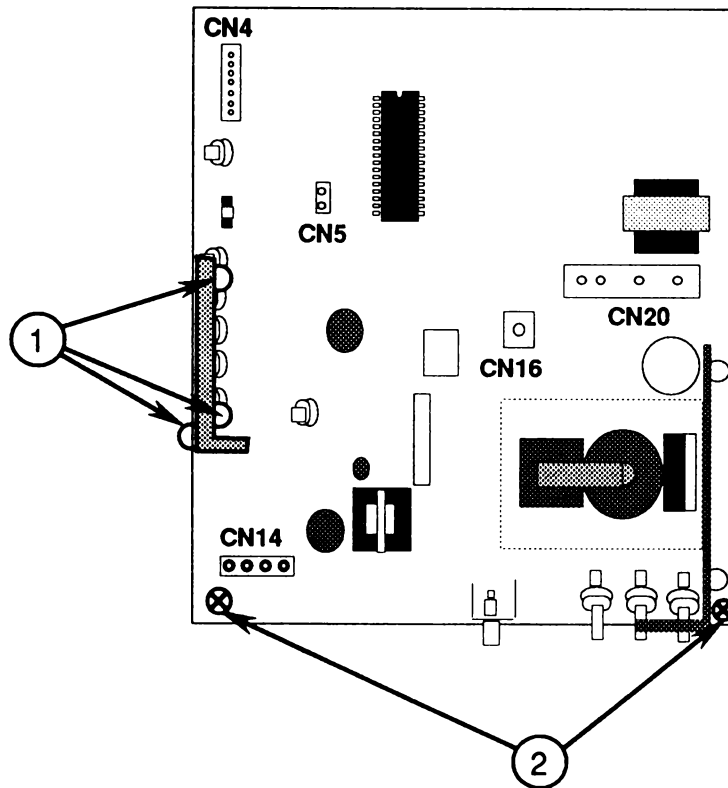

FIGURE 30
6. Remove the two mounting screws from the inside corners of the power supply board and the one remaining mounting screw on the outside corner (Figure 30, #1).
7. Remove the two screws (Figure 30, #2) from the rear corners of the main logic PCB.